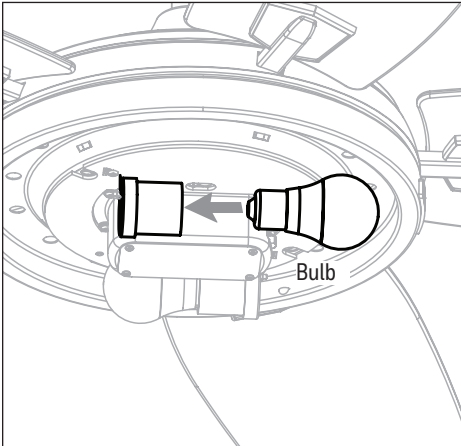

Figure 5.10
10. Install E26-base bulbs into the sockets of the light kit. **Important:** When replacing the bulb, allow bulb and light kit to cool before touching (Figure 5.10).